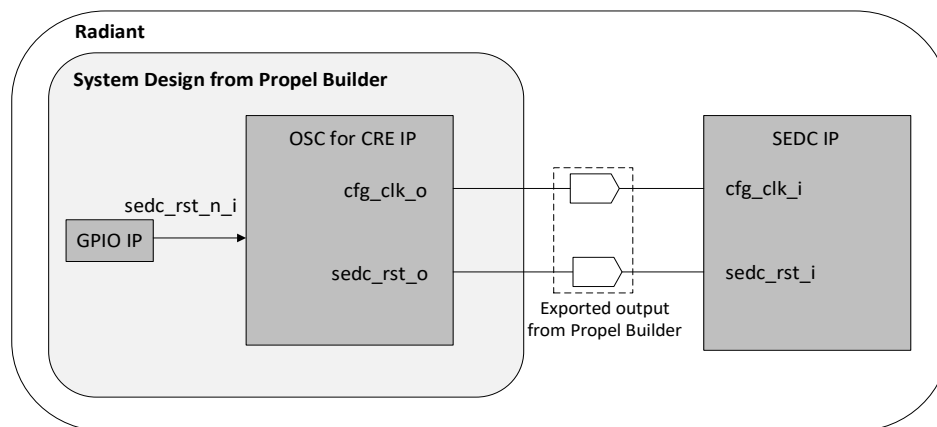

Figure 10.1. GPIO IP to Assert *sedc\_rst\_n\_i* Before Executing Software Reboot API
- If you implement Embedded Security and Function Block (ESFB) IP in MachXO5-NX RoT devices, take the following procedure. Instantiate the GPIO IP in Lattice Propel Builder to connect to *sedc\_rst\_n\_i* of the OSC for CRE IP. Export the OSC CRE IP *cfg\_clk\_o* and *sedc\_rst\_o* pins in Lattice Propel Builder to connect them to SEDC IP *cfg\_clk\_i* and *sedc\_rst\_i* pins respectively in your RTL design. Execute the API of GPIO IP to assert *sedc\_rst\_n\_i* before executing the ESFB software reboot API. Figure 10.1 shows the connection between GPIO IP, OSC for CRE IP, and SEDC IP.
Important Note	<ul style="list-style-type: none"> <li>• For the second condition, the SEDC primitive must be held in reset: <ul style="list-style-type: none"> <li>• added c) before executing software reboot API in MachXO5-NX RoT device to the second condition;</li> <li>• replaced OSC with OSC/OSC for CRE IP;</li> <li>• added the following paragraph: If you implement Embedded Security and Function Block (ESFB) IP in MachXO5-NX RoT device, take the following procedure. Instantiate the GPIO IP in Lattice Propel Builder to connect to sedc_rst_n_i of the OSC for CRE IP. Export the OSC CRE IP cfg_clk_o and sedc_rst_o pins in Lattice Propel Builder to connect them to SEDC IP cfg_clk_i and sedc_rst_i pins respectively in your RTL design. Execute the API of GPIO IP to assert sedc_rst_n_i before executing the ESFB software reboot API. Figure 10.1 shows the connection between GPIO IP, OSC for CRE IP, and SEDC IP.</li> <li>• added Figure 10.1. GPIO IP to Assert sedc_rst_n_i Before Executing Software</li> </ul> </li> </ul>